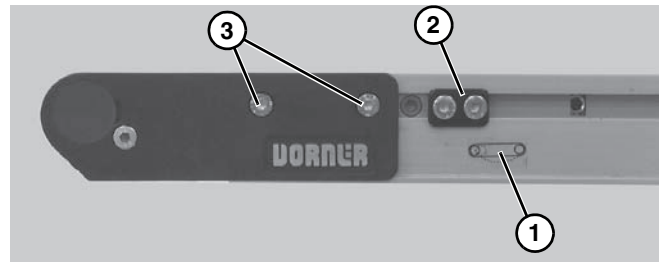

Figure 4
2. On tension end of the conveyor, identified with  a label (Figure 4, item 1): On both sides of conveyor, loosen and move cam tracking assemblies (Figure 4, item 2) (if equipped) away from head plates, then loosen fastening screws (Figure 4, item 3) and push head plate assembly inward.
7. If equipped with cam tracking assemblies (**Figure 4, item 3**), reposition and adjust belt tracking. Refer to “Conveyor Belt Tracking” on page 13.